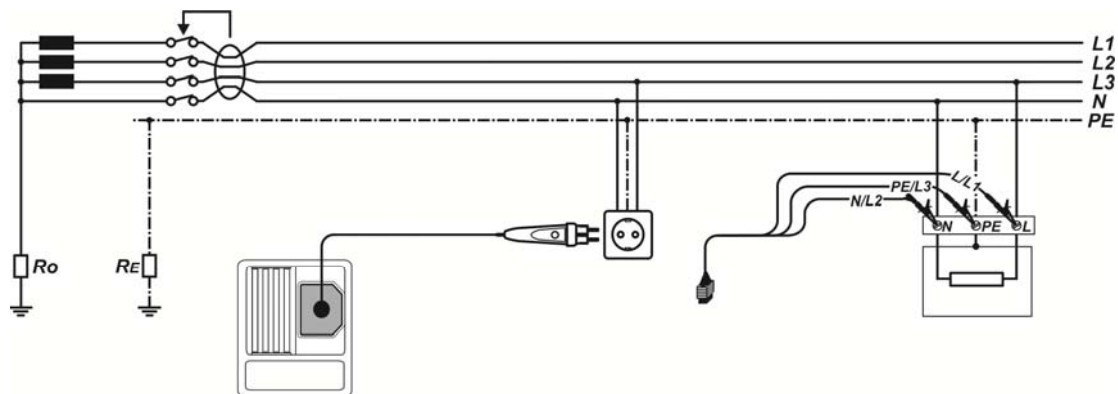

Figure 5.26: Connecting the plug test cable and the 3-wire test lead
- ❑ **Connect** test leads to the item to be tested (see *Figure 5.26*).
- Connect** test leads to the item to be tested (see Figure 5.26).
<ul style="list-style-type: none"> □ Select the RCD function using the function selector Switch. □ Set sub-function to AUTO using . □ Set test parameters (if necessary). □ Connect test cable to the instrument. □ Connect test leads to the item to be tested (see Figure 5.26). □ Press the TEST key to perform the test. 	Start of test